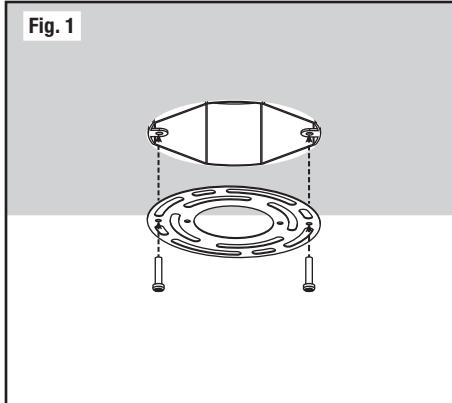

Fig. 1
3. Secure the universal mounting bracket to the octagon box using octagon box screws. The side of the mounting plate marked "GND" must face out. (Fig. 1)